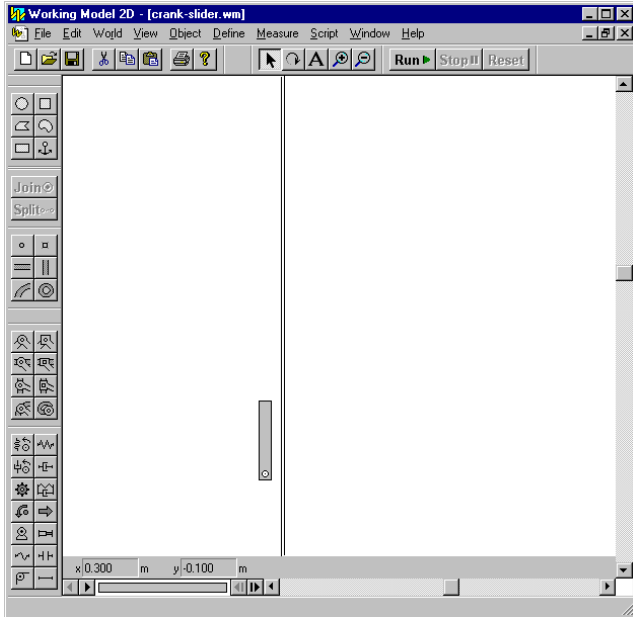

Figure 15. Crank Slider Example. Steps 1-2.
1. Place a slot on the background, Figure 15, using the slot element
2. Draw a small link and use a pin joint  to anchor it to the background, Figure 15.